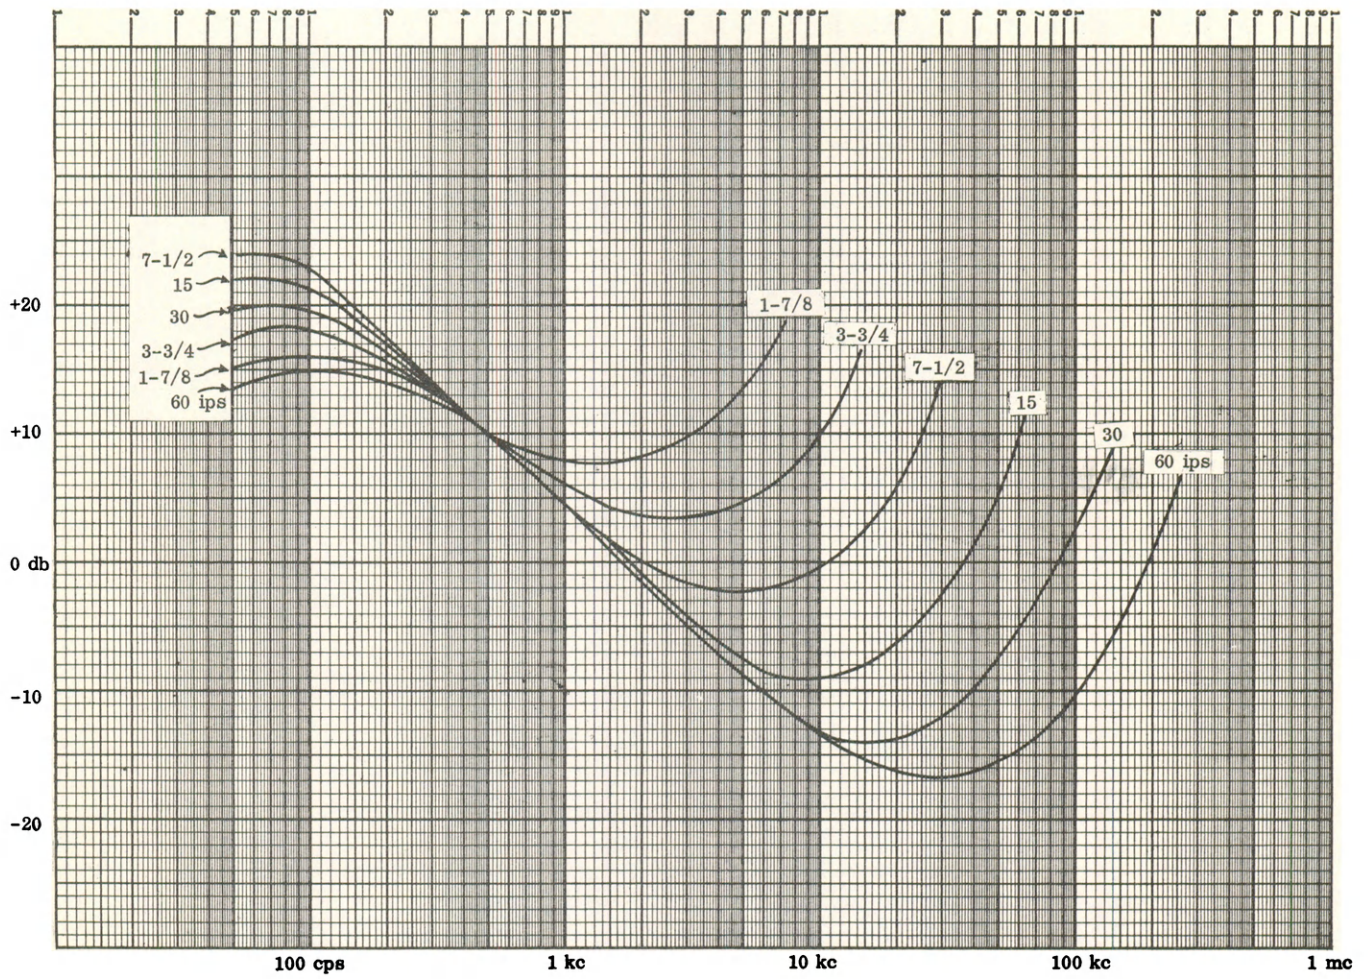

Figure 4-7. Direct Reproduce Amplifier Equalization Curves Wideband
- Step 10: Sweep the oscillator over the designated passband of the desired speed to ensure the response is within specification (see figure 4-7).
- Step 6: Reset the oscillator to the first or lower frequency (see Tables 4-3 and 4-4, Equalizer Alignment Frequencies) corresponding to the operational tape speed selected. The level at this frequency should be the same as that for the 500 cps reference point. Adjust the equalizer control corresponding to the frequency set on the oscillator until the output of the direct reproduce module is the same as that for the 500 cps reference point. Refer to figures 4-7 and 4-8.